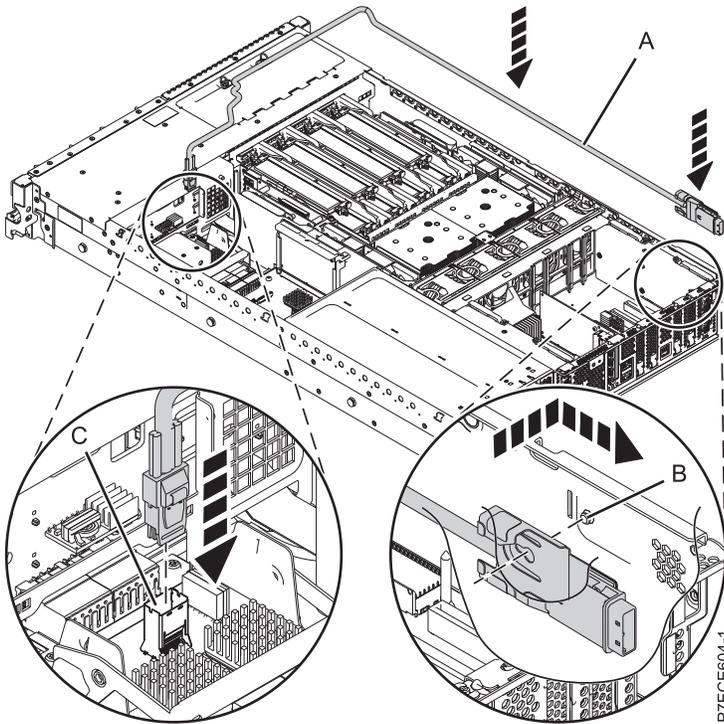

Figure 39. Replacing the SAS cable
2. Connect the SAS shroud of the SAS cable to the external SAS connection port (C) at the rear of the system backplane until it snaps in place. See Figure 39 on page 88.
3. Lay the cable (A) beside the side wall and slide it toward the SAS connection port on the disk drive backplane.
4. Push the SAS shroud (B) into the SAS connection port on the disk drive backplane until it snaps in place.